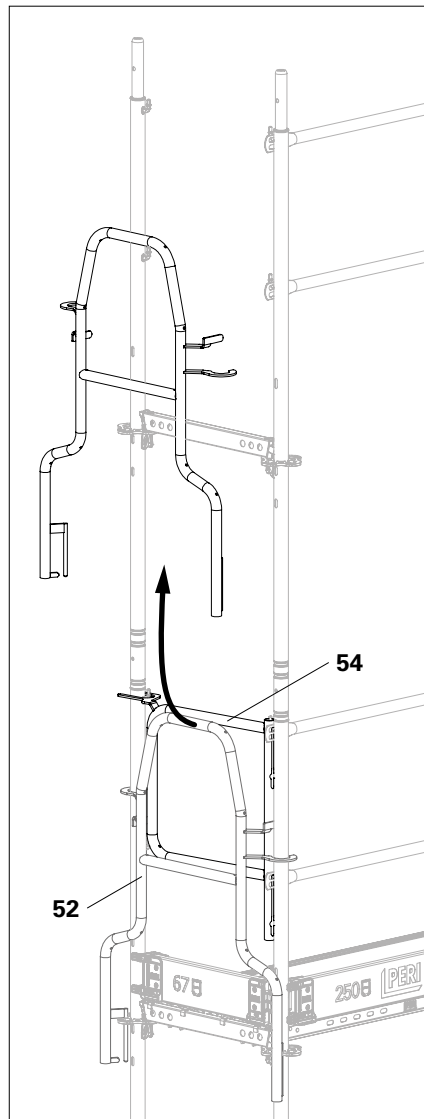

Fig. A3.17a
1. Installation of the End Guardrail in Advance UPA-2 (52) for the next level takes place from a safe position, see previous section.
2. Install End Guardrail EPF (54) in addition to End Guardrail UPA-2, see previous section.
- (Fig. A3.17a + A3.17b)